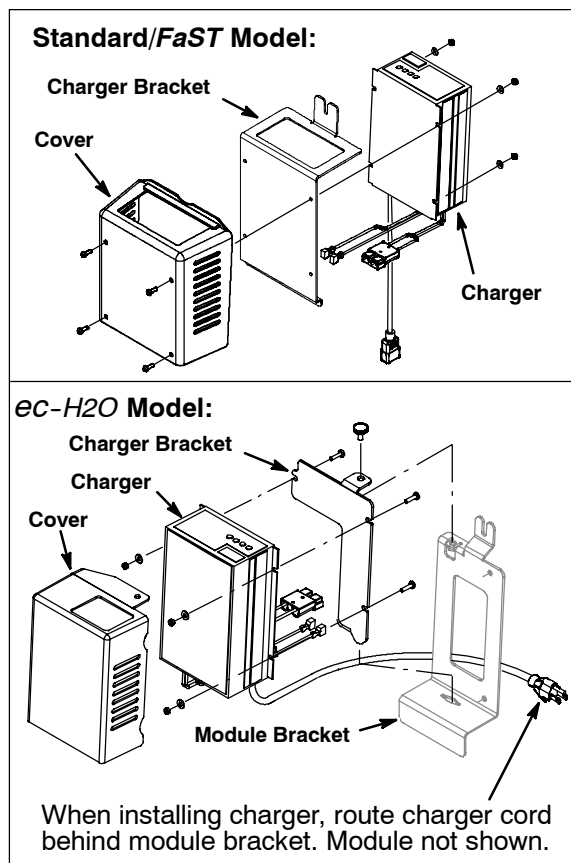
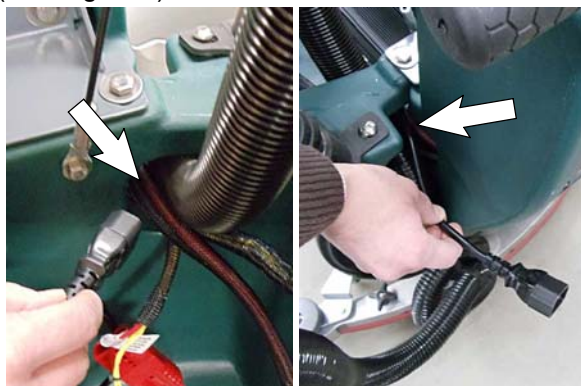

Fig. 9
Fig. 12
10. Assemble the charger and cover to the charger bracket as shown (Figure 9).
13. Route the charger's power cord through the battery compartment hole as shown (Figure 12). For ec-H2O models, route the power cord behind the module bracket before routing through hole (See Figure 9).